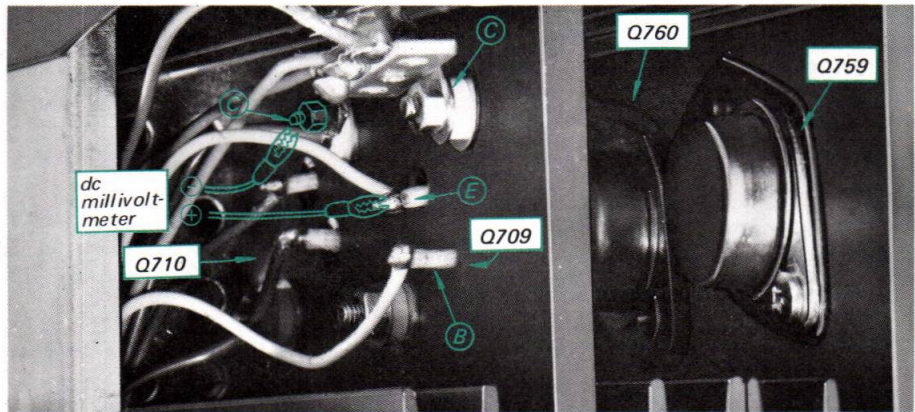

Fig. 3-13. Dc millivoltmeter connection
To avoid accidental power transistor damage, increase the ac line voltage gradually, using a variable transformer, while measuring the voltage across emitter of Q709 (Q759) and collector of Q710 (Q760) as shown in Fig. 3-13 or 3-14. Check to see that the reading does not exceed 50 mV. If it does, turn off the power as soon as possible, then check and repair the trouble in the
2. Connect the dc millivoltmeter across emitter of Q709 (Q759) and collector of Q710 (Q760) as shown in Figs. 3-13 or 3-14.